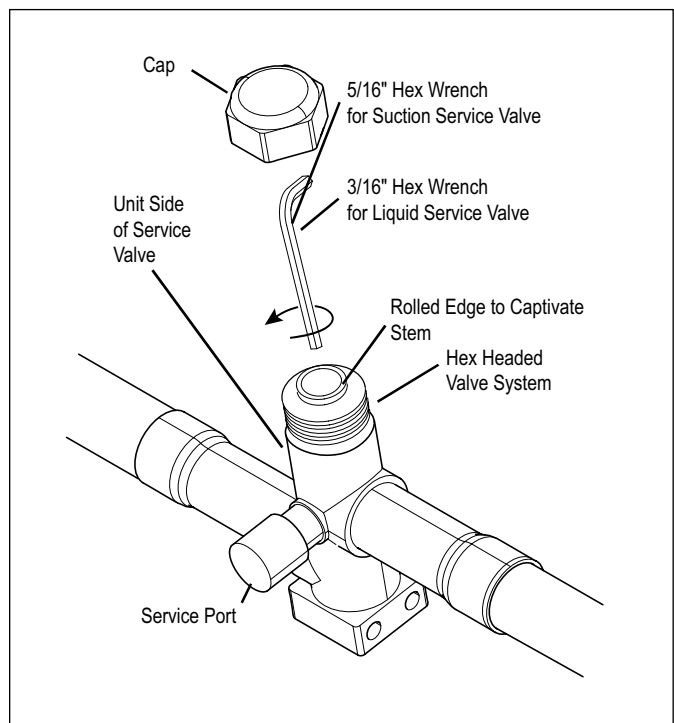

Figure 28
1. Remove Service Valve Cap (Figure 28).